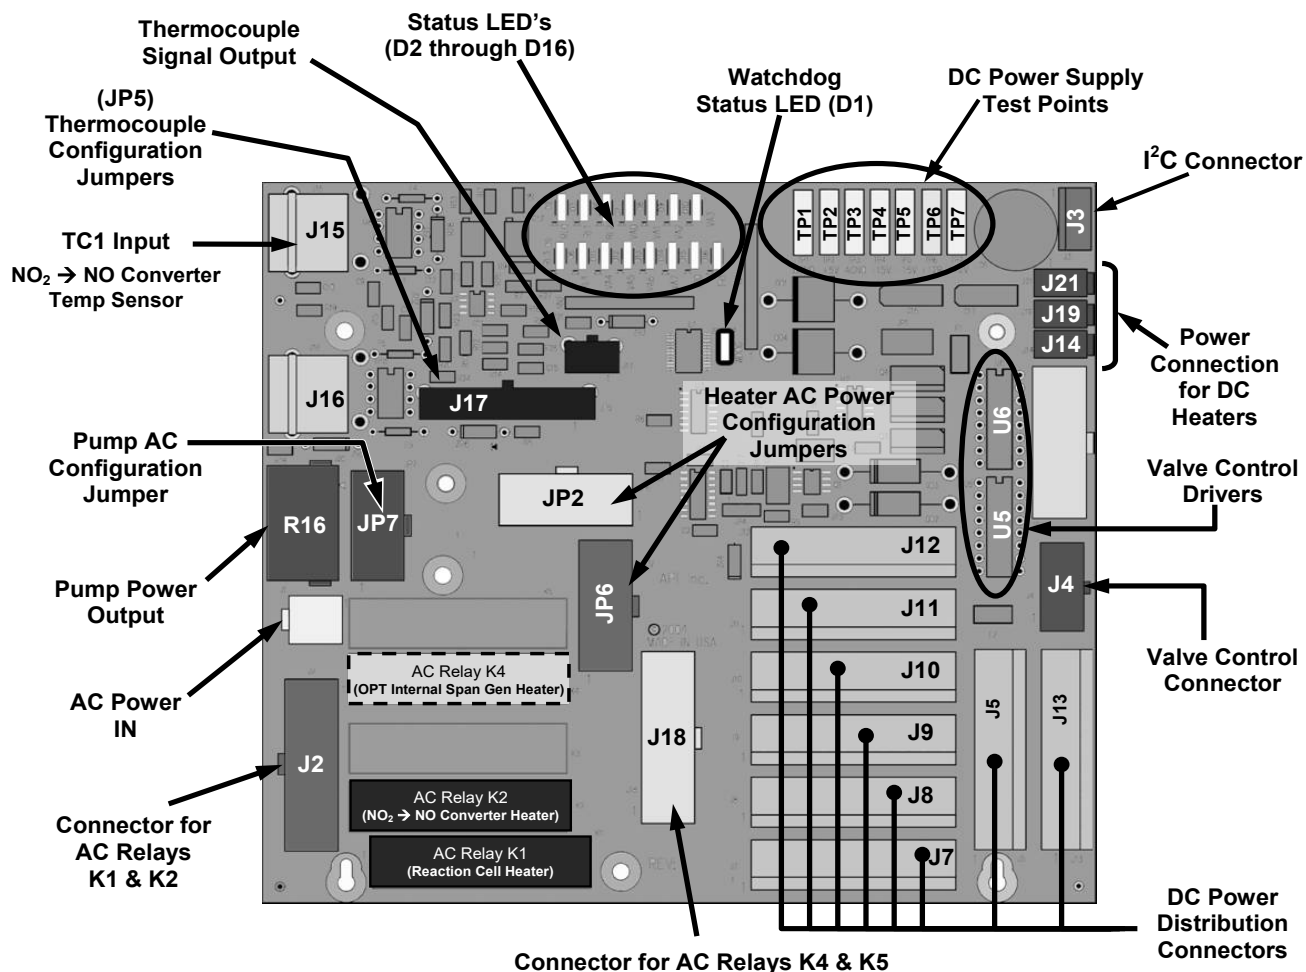

Figure 6-13. Relay PCA Layout (P/N 045230100)
The CPU issues commands via a series of relays and switches located on a separate printed circuit assembly, called the Relay PCA (Figure 6-13), to control the function of key electromechanical devices such as heaters and valves. The Relay PCA receives instructions in the form of digital signals over the I²C bus, interprets these digital instructions and activates its various switches and relays appropriately.
- TC2 (J16) is currently not used (see Figure 6-13 for location of J15 and J16).